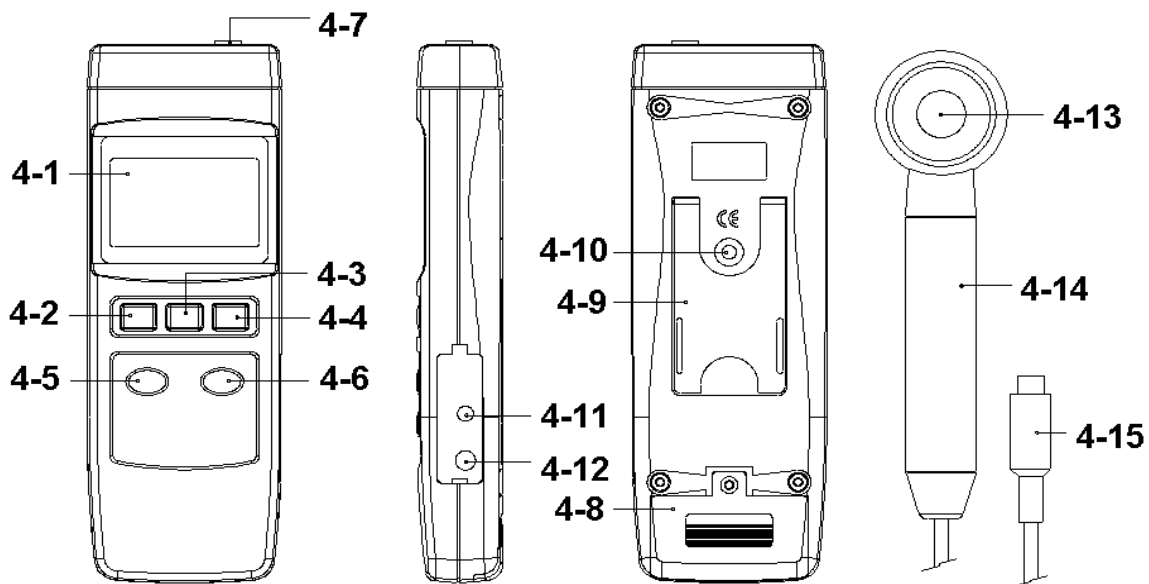

Fig. 1
- 1) Connect the " Probe Plug " (4-15, Fig. 1) to the " Input Socket " (4-7, Fig. 1)
- 2) Power on by pushing the " Power Button " (4-2, Fig. 1).
** After power ON if push the " Power Button (4-2, Fig. 1) once a while again will power OFF the meter.*
- a. Select the " 2 mW/cm² " range by pushing the " 2 mW/cm² Button " (4-5, Fig. 1).
- b. Select the " 20 mW/cm² " range by pushing the " 20 mW/cm² Button " (4-6, Fig. 1).
- 4) Use the hand to hold the " UV Probe Handle " (4-14, Fig. 1) and face the " UV Sensor " (4-13, Fig. 1) to the measuring UV light opposite. then the Display (4-1, Fig. 1) will show light values exactly.
During the measurement, pressing the " Hold Button " (4-3, Fig. 1) will freeze the display value, at the same time the LCD will show the " HOLD " indicator.
- * The data record function records the maximum and minimum readings. Press the " REC Button " (4-4, Fig. 1) once to start the Data Record function and there will be a " REC. " symbol on the display.
- a) Press the " REC Button " (4-4, Fig. 1) once, the " REC. MAX. " symbol along with the maximum value will appear on the display.
If intend to delete the maximum value, just press the " Hold Button " (4-3, Fig. 1) once, then the display will show the " REC. " symbol only & execute the memory function continuously.
- b) Press the " REC Button " (4-4, Fig. 1) again, the " REC. MIN. " symbol along with the minimum value will appear on the display.
If intend to delete the minimum value, just press the " Hold Button " (4-3, Fig. 1) once, then the display will show the " REC. " symbol only & execute the memory function continuously.
Cover (blank) the " UV Sensor " (4-13, Fig. 1), pushing " Zero Button / 2 mW/cm² Button " (4-5, Fig. 1) continuously at least 3 seconds, LCD will reach to zero values.
Zero Button (4-5, Fig. 1) can be operated under the display value ≤ 0.1 mW/cm² only.
The instrument has RS232 PC serial interface via a 3.5 mm terminal (4-11, Fig. 1).
- 2) Open the " Battery Cover " (4-8, Fig. 1) away from the instrument and remove the battery.